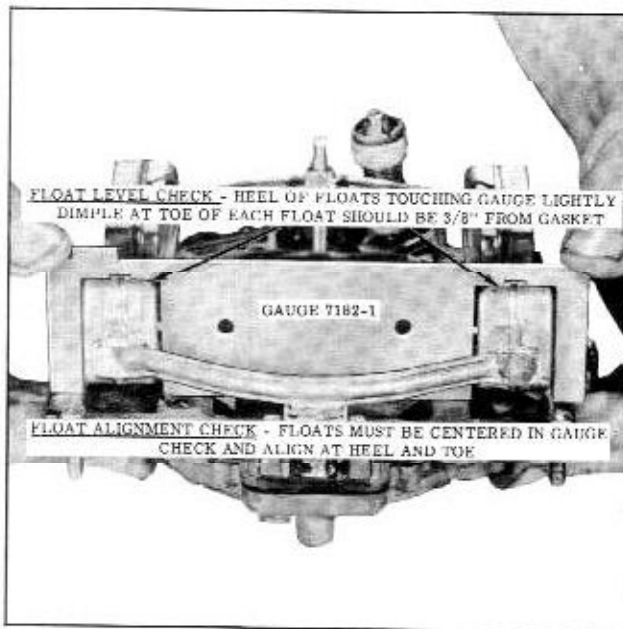

Fig. 8-120 Checking Secondary Float Level and Alignment
1. With the gasket in place and the air horn inverted, position gauge as shown in Fig. 8-120.